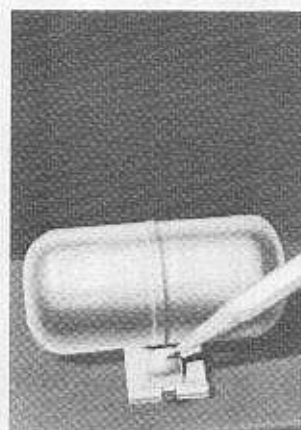

Fig. 24
**28** Polish fuel needle contact surface of float arm indicated in Fig. 24, using #320 "wet or dry" paper.